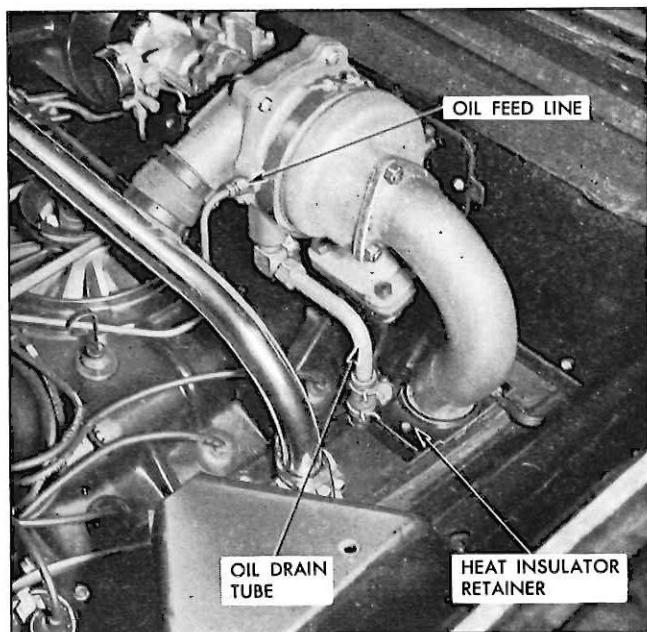

Fig. 20—Supercharger Oil Lines
3. Remove supercharger heat shield, then disconnect oil feed line and drain line at supercharger housing (fig. 20).